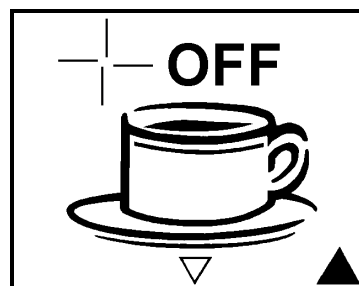

Fig. 11
2. Press the left-hand side of the setting key → (13) to switch the mixer off, see fig. 11.